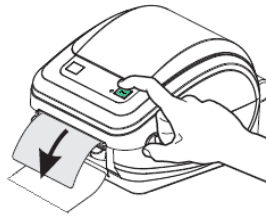

Figure 3.7.9 Printer Feed Button
- 6) *Press feed button (Figure 3.7.9) to feed one blank label.*
- 5) Press the feed button (Figure 3.7.9) to advance the media and confirm label and backing are separating correctly. Thread excess backing paper into the slot located below the dispenser door. This will direct waste paper away from working parts of the machine to maintain smooth operation.
If the labels are dispensing inconsistently, or more than one at a time, it may be necessary to calibrate the media sensor. To do this, hold feed button (Figure 3.7.9) until two green flashes, then release.
To reset back to factory default settings, hold feed button (Figure 3.7.9), wait for four green flashes, then release.
To enter dump mode, turn printer off. Hold feed button (Figure 3.7.9) while powering on and release when light flashes green. This will cause printer to print all communications exactly as received.